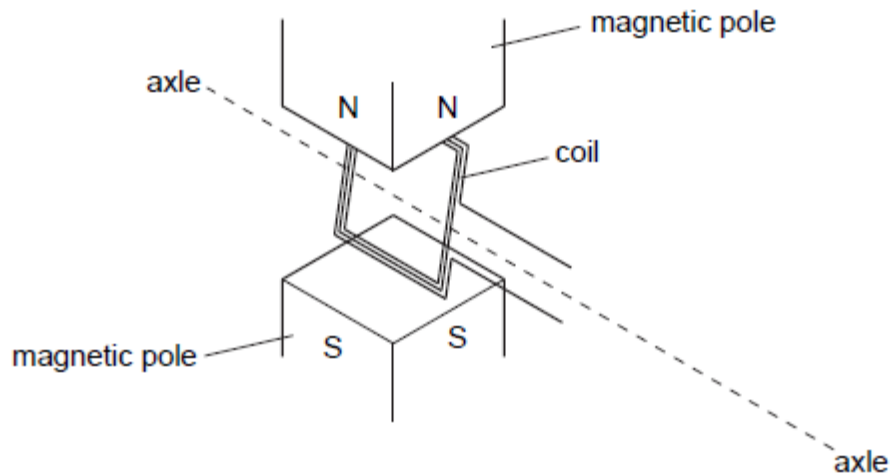

Fig. 11.2
- (d) Fig. 11.2 shows the flexible wire made into a rigid rectangular coil and mounted on an axle.